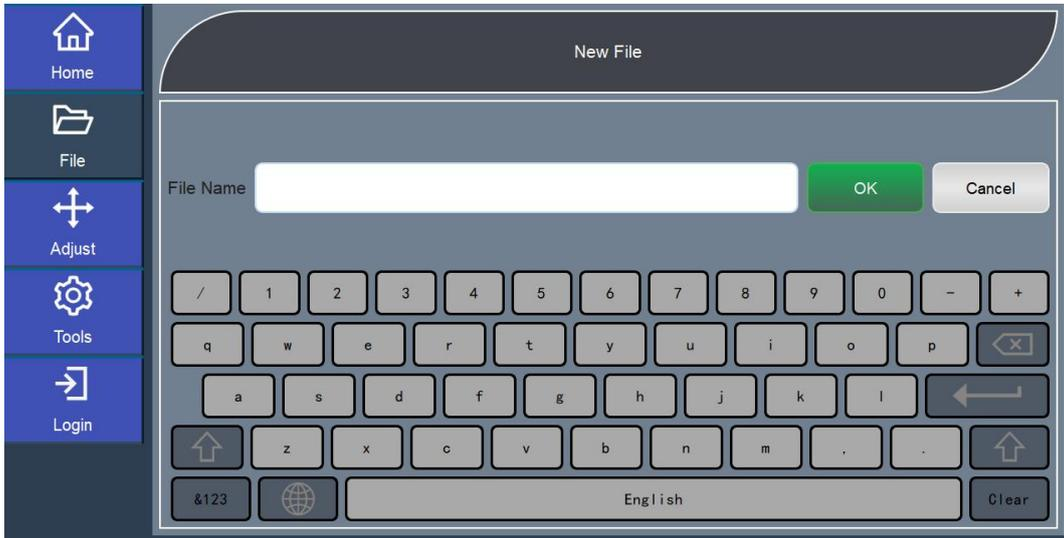

Figure 3-2 File processing interface
2.Click the  on the file processing interface, and the interface shown in Figure 3-2 will pop up.